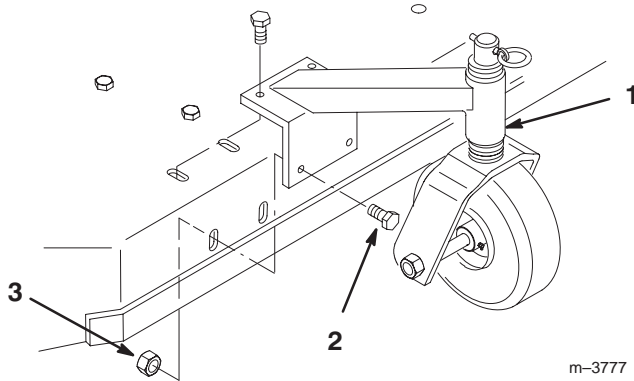

Figure 2
1. Align casters with holes on top and front of mower and insert 8 bolts (3/8 x 3/4 in.) through mower. Secure with 8 flange nuts (3/8 in.) below mower (Fig. 2).